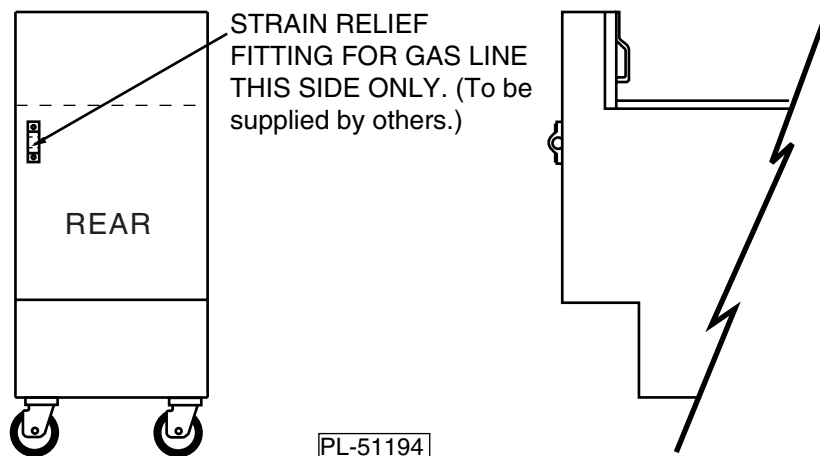

Fig. 3
- The fryer must be installed with restraining means to guard against transmission of strain to the connector, as specified in the manufacturer's instructions (Fig. 3).